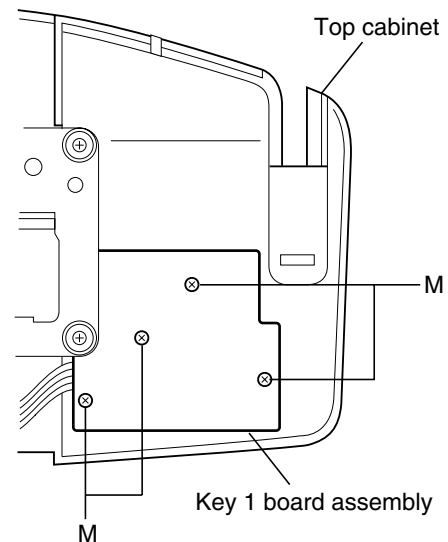

Fig.17
■ Removing the key 1 board assembly (See Fig.17)
1. Remove the four screws "M" retaining the key 1 board assembly from the back side of the top cabinet assembly.